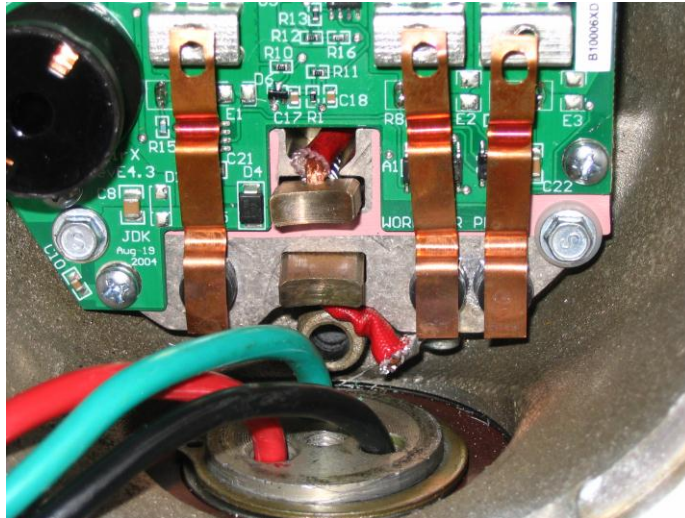

Fig. 10
32. Make sure the bottom brush wire is between the rectifier and the circular ground sleeve on the body casting. A small screwdriver may be necessary to push this wire into its proper position. Be sure that the brush moves freely inside the slot. See **Fig 10**.